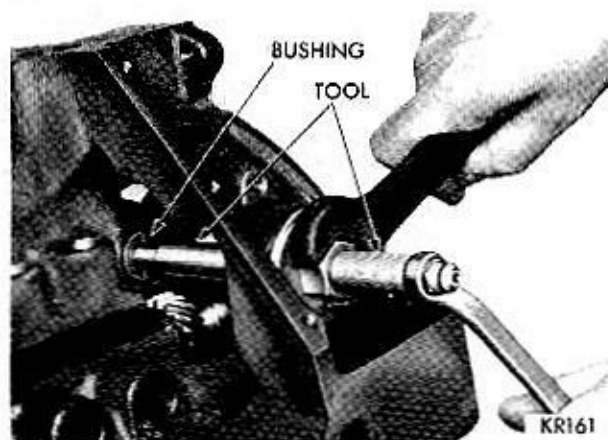

Fig. 33—Burnishing Distributor Drive Shaft Bushing
(3) As the burnisher is pulled through the bushing by tightening remover nut, the bushing is expanded tight in the block and burnished to correct size (Fig. 33). **DO NOT REAM THIS BUSHING.**